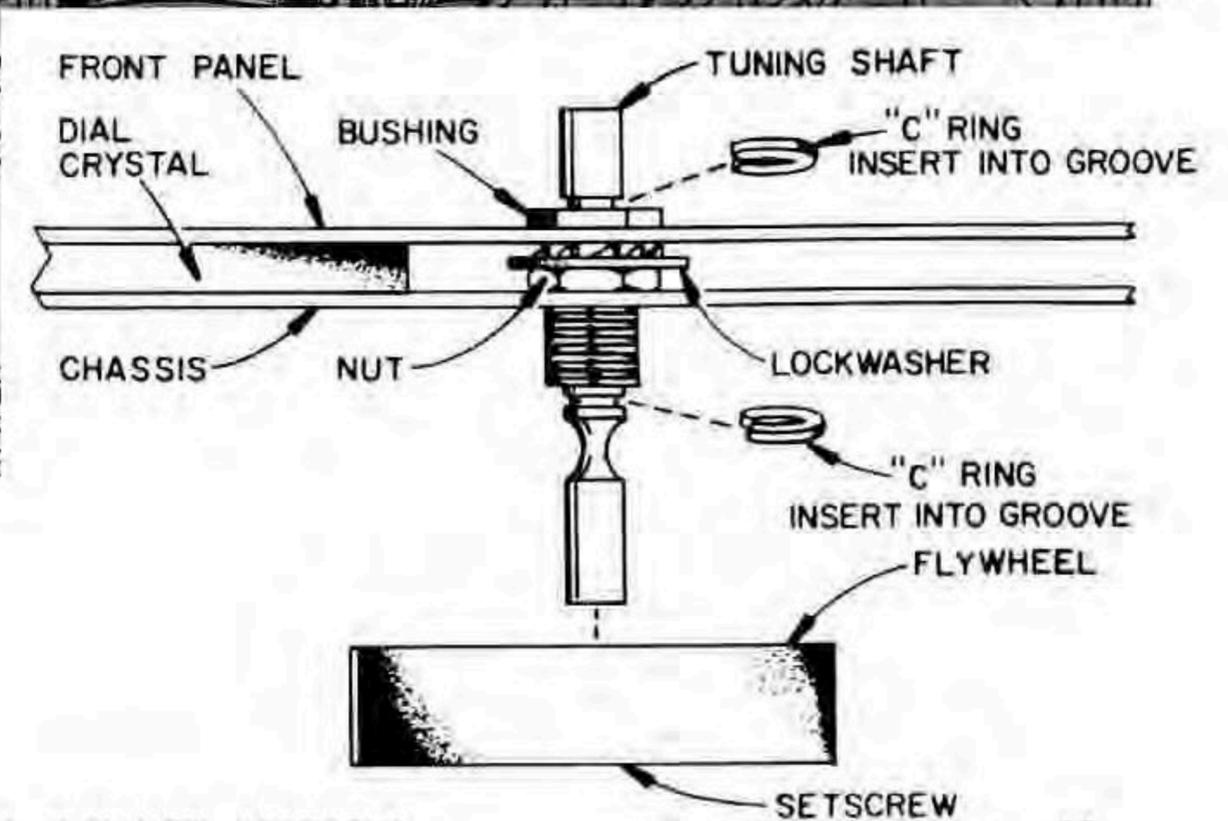

FIGURE 15. FLYWHEEL ASSEMBLY
- Flywheel and tuning shaft. Insert the tuning shaft into the bushing as shown in Figure 15. Fasten in place by crimping a "C" ring on the front panel side of the bushing. Fasten the flywheel in place by tightening with a setscrew. Crimp the other "C" ring as shown inside the chassis.